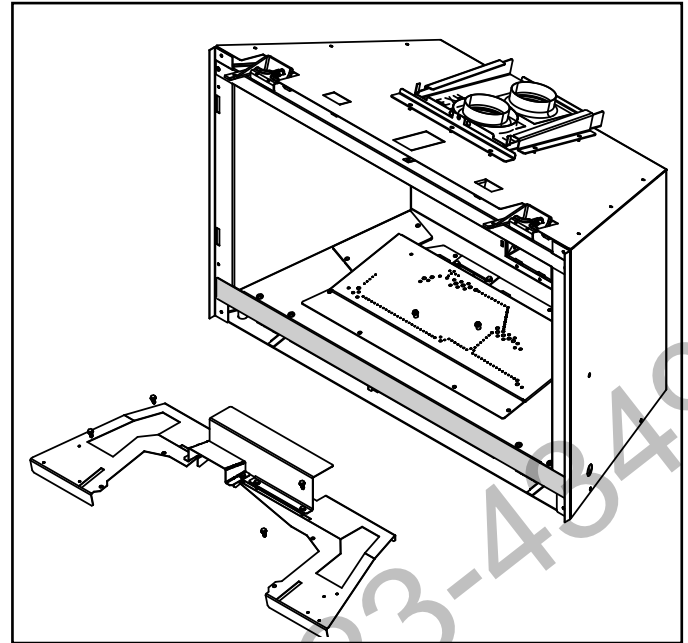

Figure 6 Base Pan Assembly Removal - Traditional
13. Remove the base pan assembly by removing the screws that secure the base pan assembly to the burner assembly. See Figure 6.